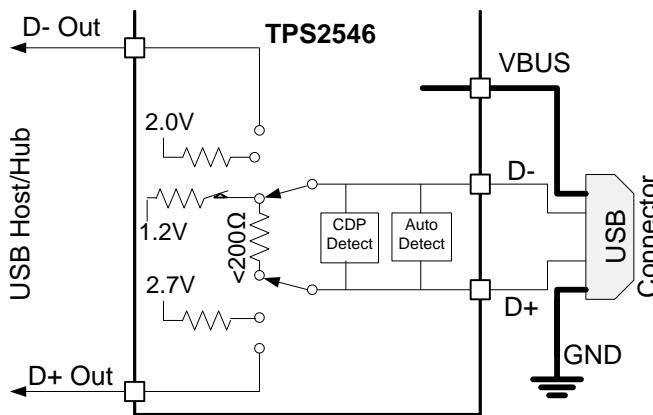

Figure 31. DCP 1.2-V Charging Scheme
1.2-V charging scheme is used by some handheld devices to enable fast charging at 2 A. TPS2546 supports this scheme in the DCP-Auto mode before the device enters BC1.2 shorted mode. To simulate this charging scheme D+/D- lines are shorted and pulled-up to 1.2 V for fixed duration then device moves to DCP shorted mode as defined in BC1.2 specification. This is shown in Figure 31